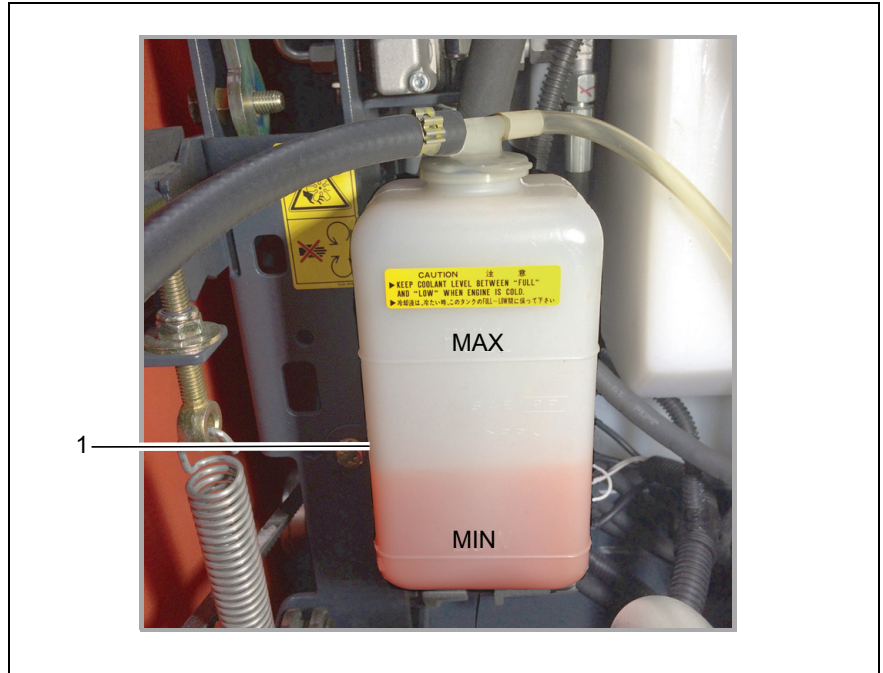

Fig.20
3. Check the coolant level. With the engine cooled down, coolant must be visible between the MIN and MAX mark of the expansion tank (Fig. 20/ 1).